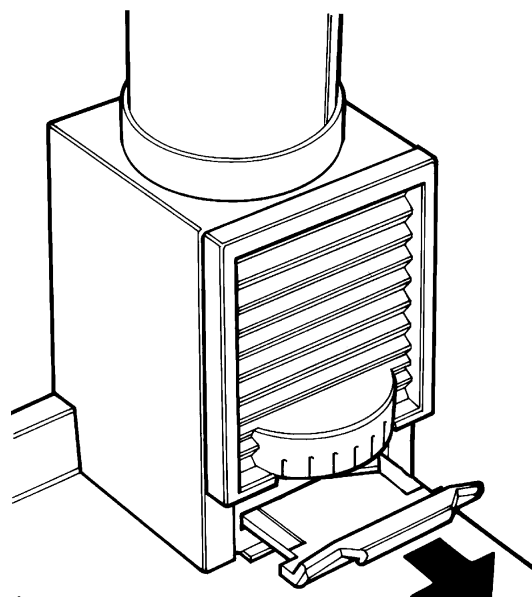

Fig. 4
7. Open flue chamber to maximum (Fig. 4).
6. Open flue chamber damper to maximum (Fig. 4).
Turn the pivoted dilution lever (on the bottom front flue chamber door) Fig. 4 from left to right hand side so that the door opens at the bottom and minimises the burning rate and chimney condensation.